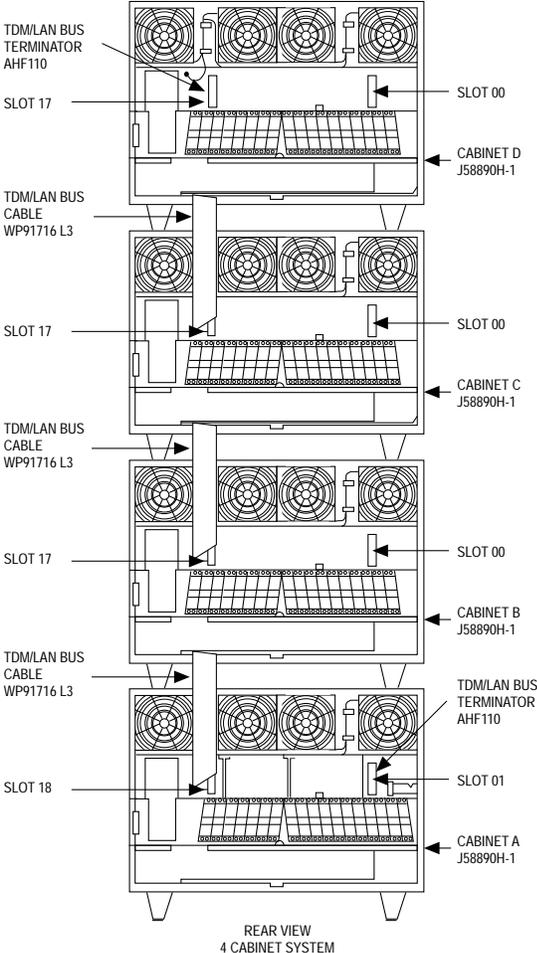

FIGURE 3-16. G1 TDM/LAN Bus Connections
2. See Note. Remove the existing TDM Bus Terminator on the top port cabinet, and replace it with the new AHF110 TDM Bus terminator (see Figure 3-16).
1. Route and connect the new WP91716L-3 TDM/LAN bus cables (see Figure 3-16). Use the following steps to route the cables between the R1V3 port cabinets being reused. The new bus cable is not run through the existing slot in the rear shelf.